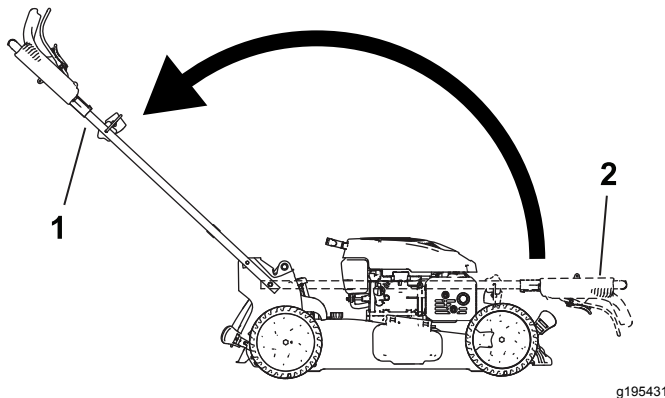

Figure 28
2. Fold the handle by rotating it forward (Figure 28).